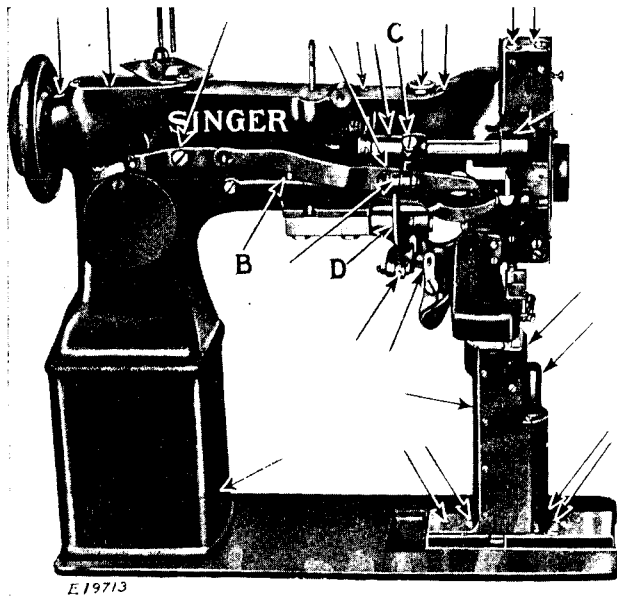
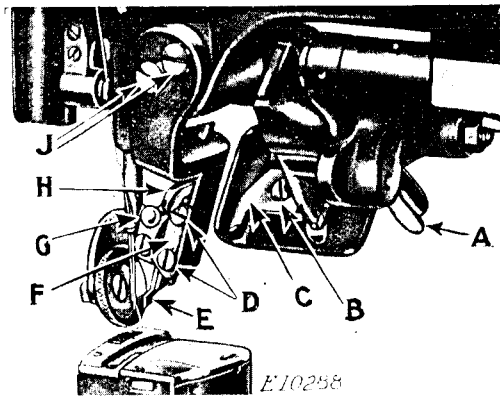

Fig. 20. Back View of Machine, Showing Oiling Points
Fig. 23. Adjustments on Trimmer
The pressure on the material is regulated by the hexagon screw (B, Fig. 20) at the back of the machine, the screw acting on a flat spring. To increase the pressure, turn the screw downwardly. To decrease the pressure, turn the screw upwardly.
The knife (C, Fig. 23) should be set so that its cutting edge presses against the cutting edge of the throat plate to ensure making a shear cut.
To throw the knife out of action, release the knife unlocking lever (A, Fig. 23) by pressing it between the thumb and forefinger of the right hand and move the knife driving arm as far back as it will go.
The sidewise adjustment of the knife is made by loosening the screw (B, Fig. 23) and moving the knife to the right or left, as may be required, after which tighten the screw (B).
The knife (C, Fig. 23) should be timed so that it is at its most forward position toward the operator and $\frac{1}{2}$ inch in front of the needle when the needle bar is at its lowest point. In case the knife is not correctly timed, loosen the screw (C, Fig. 20) at the back of the machine and raise or lower the knife driving connection (D, Fig. 20), as may be required, then tighten the screw (C).
The edge guide (E, Fig. 23) can be adjusted so that the knife will trim the edge of the under ply of material from flush up to $\frac{1}{4}$ inch under the edge of the upper ply. To change the distance from the edge of the upper ply to the line of stitching, loosen the two screws (J, Fig. 23) and move the edge guide bracket to the right or left, as required, then tighten the two screws (J).
The edge guide should be adjusted to a height that will permit the knife to pass freely under it, the edge guide lightly touching the top of the knife. This adjustment is made by loosening the two screws (D, Fig. 23) and raising or lowering the edge guide position plate (F, Fig. 23), as required, then tighten the two screws (D).
To disengage the edge guide (E, Fig. 23), raise the lifting pin (G, Fig. 23) until it locks. To re-engage the edge guide, push the latch (H, Fig. 23) to the left, which will release the guide
When it is necessary to resharpen the knife (C, Fig. 23), loosen the screw (B, Fig. 23) and remove the knife from the knife holder. Knife Hone 259283 should be used to sharpen the knife. As this hone can be used for several machines, it should be ordered separately.